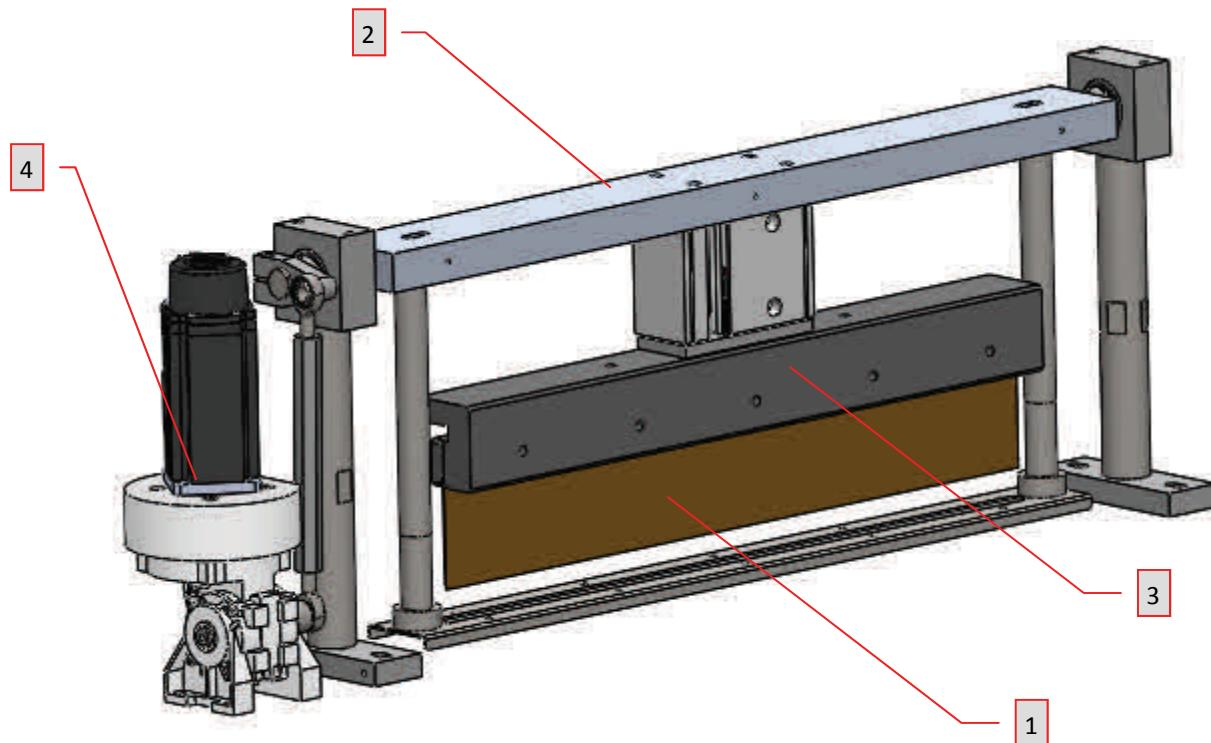

FIGURE 14—Bar Cutter Blade Detail
- 2. Cutting Mechanism With Vertical and Horizontal Blade Movement** —See Figure 14 on page 15 for a more detailed view.
3. **Bar Cutter Knife** – See Figure 14 below for a more detailed view of the bar cutter knife mechanism.